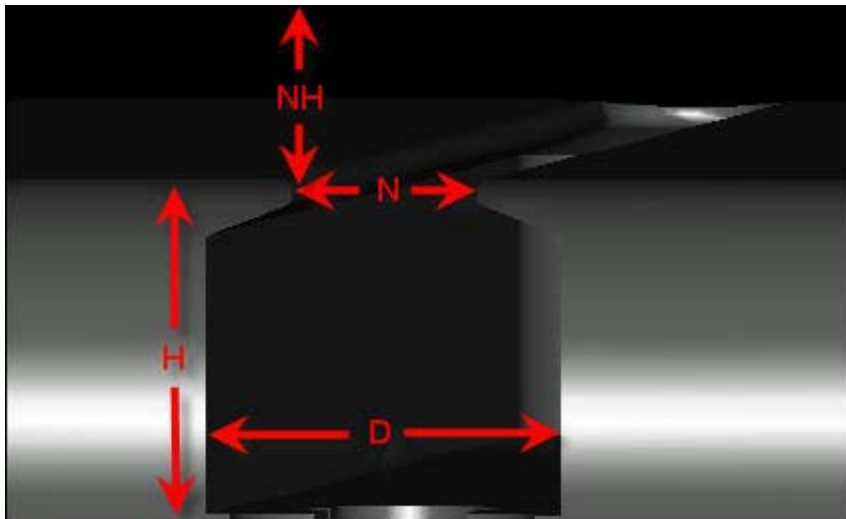
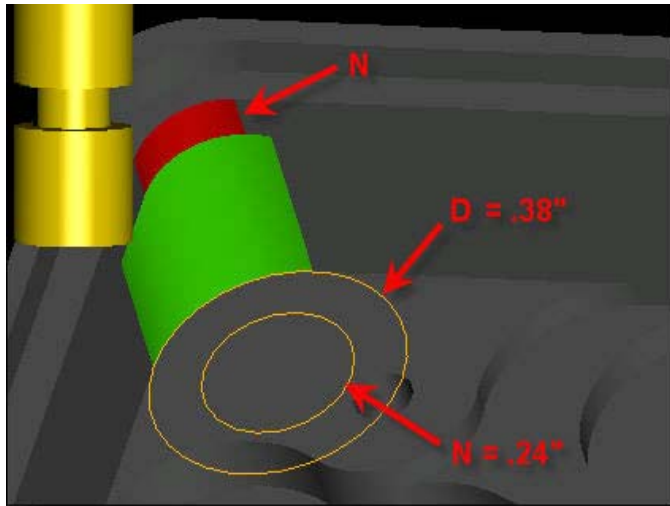

Fig. 13: This image shows a feature that must be machined with an undercutting T-Slot tool.
Fig. 14: This part has a well designed undercut.
Sometimes it is impossible to avoid creating a feature that can't be made with a standard end-mill; often this means using an undercut feature. See Fig. 13 for an example. These features are generally more expensive because they require a custom ground tool (see Fig. 14) in most cases and the cutting feeds are slower to accommodate the more fragile neck (N) diameter. Both the speed of the cutter and also the determination of whether or not the cut can even be made is based on the ratio of the cutting diameter (D) and height of cut (H) vs. the neck diameter (N) and neck
undercut is such that there could be no neck diameter or it would be so small as to be impossible. There is a pretty simple way to avoid this situation. If you are modeling a feature that requires an undercut, you can sketch in both the cutting and the neck diameters as shown in Fig. 14.